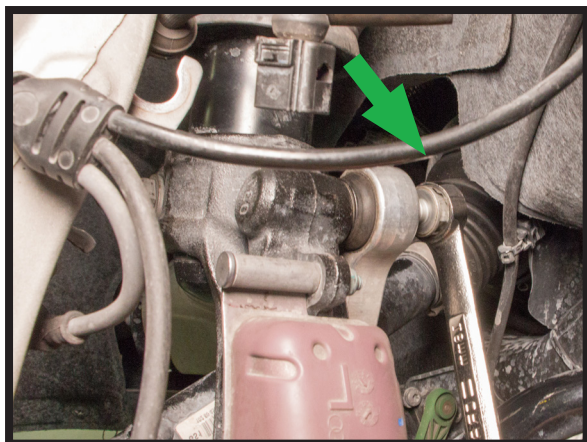

FIGURE 12
11. REMOVE SWAY BAR END LINK BOLT. (FIGURE 12, 13)